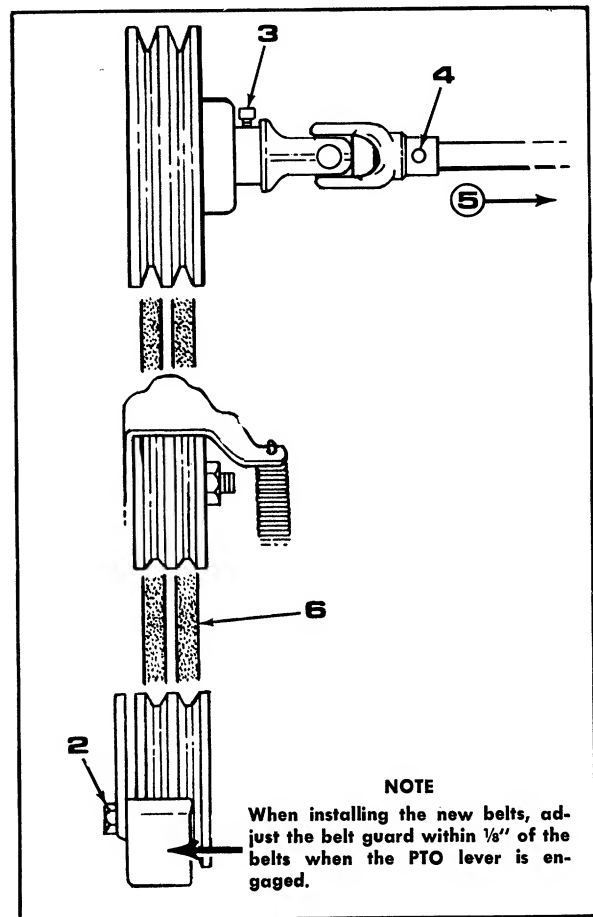

FIGURE 18. PTO BELT REMOVE
- Step 2. Remove the lower belt guard. See Figure 18.